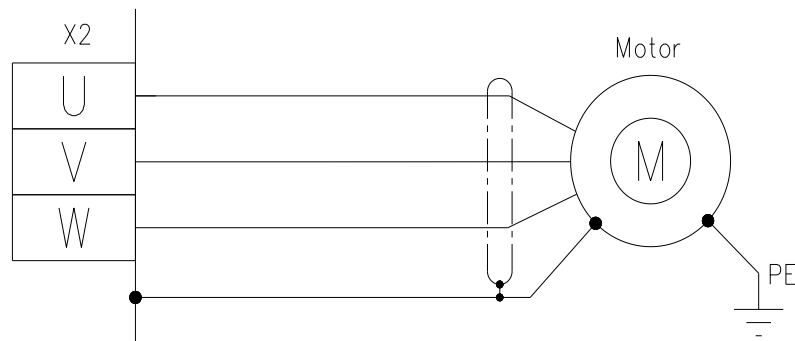

Figure 2. Motor power wirings details.
2. Connect Motor Power (X2 Connector) according to Fig 2.